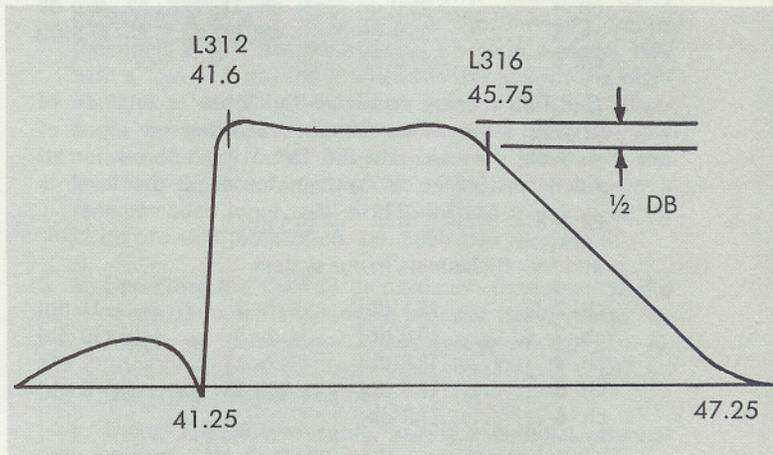

Fig. 5—Response Curve (L312, 315, and 316 adjustment)
10. Adjust L312, L315, and L316 for response shown in fig. 5.